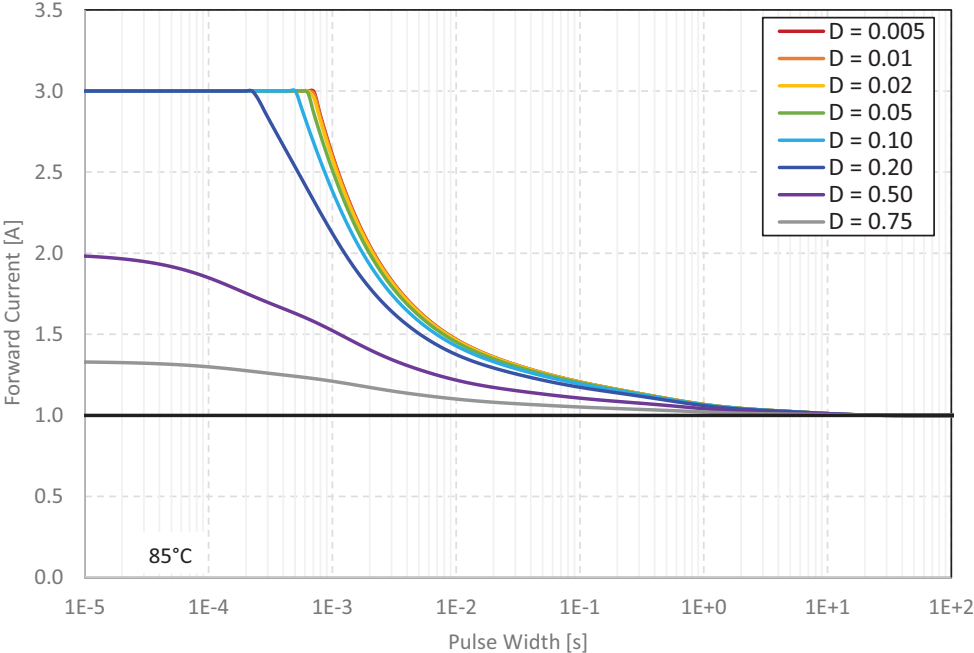

Figure 9. Permissible pulse handling capability for LUXEON IR Compact Line at  $T_j=85^\circ\text{C}$  for various duty cycles (D).
- Residual periodic variations due to power conversion from alternating current (AC) to direct current (DC), also called "ripple," are acceptable if the following conditions are met:
- For pulse handling capability details see figure 9.